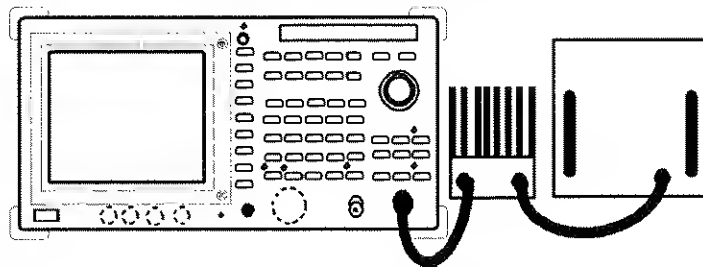

Figure 2-141 Setup for Measuring Pulsed RF Signal
1. Connect the unit under test as shown in Figure 2-141.